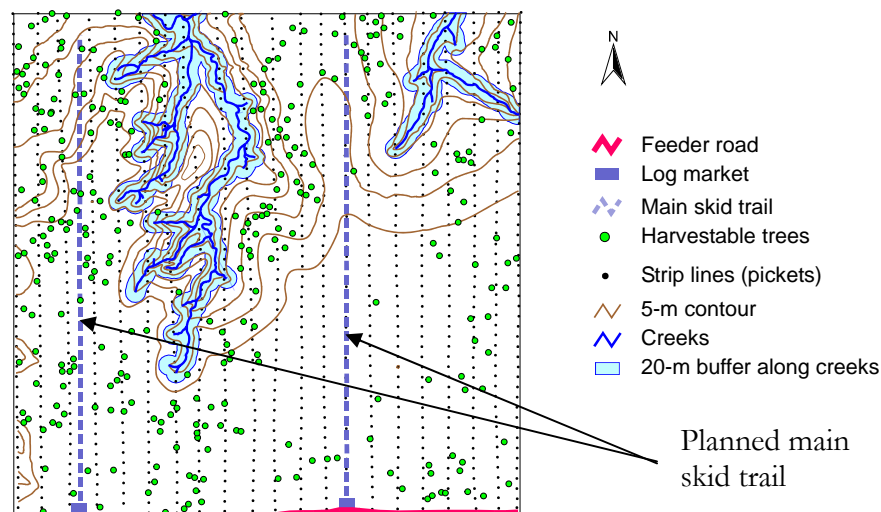

Figure 35 Locating log markets (landings) and main skid trails
**1. Locate log markets (landings) and main skid trails based on the general topography of the block (Fig. 35)**